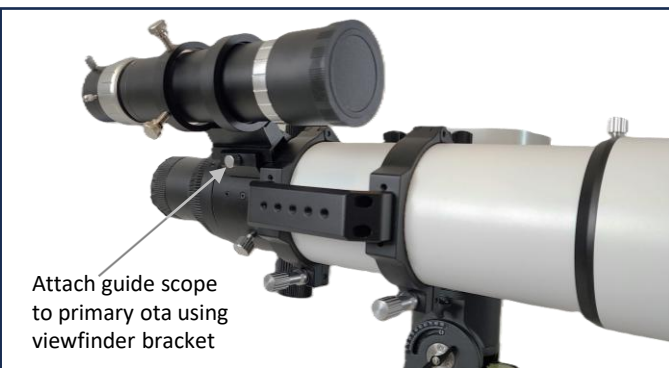

Fig. 2.6
1. **Attach Guider:** Slide the viewfinder bracket of the 53mm OTA into the viewfinder mounting shoe on the primary OTA, ensuring the lens faces forward. See Fig. 2.6.